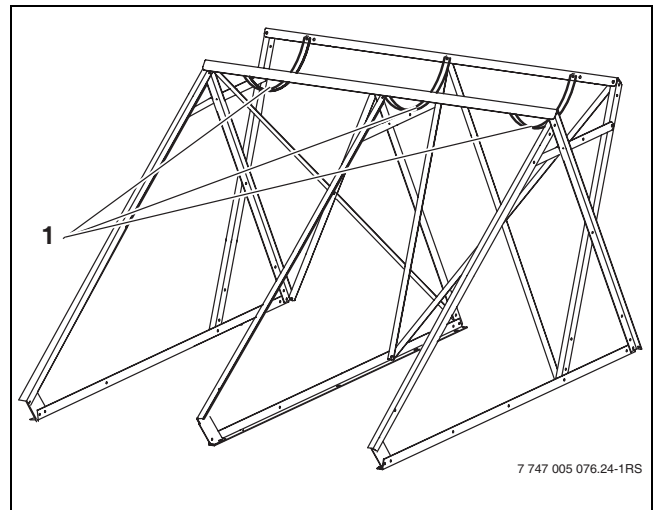

Fig. 16 Attaching the cylinder straps
- ▶ Attach cylinder straps (Fig. 16, [1]) between the two cylinder support brackets. Ensure that the flattened screw head points in the direction of the DHW cylinder (which is fitted later).